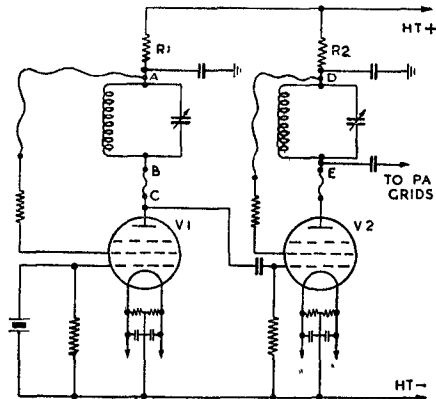

FIG. 101
- (i) *Normal doubler operation.* 3–15 Mc/s. (See fig. 101.)